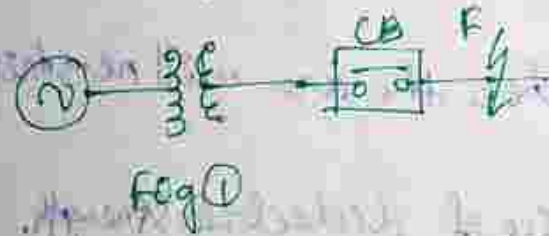

Fig 1
- Fig 1 shows a short-circuit occurring on the transmission line.